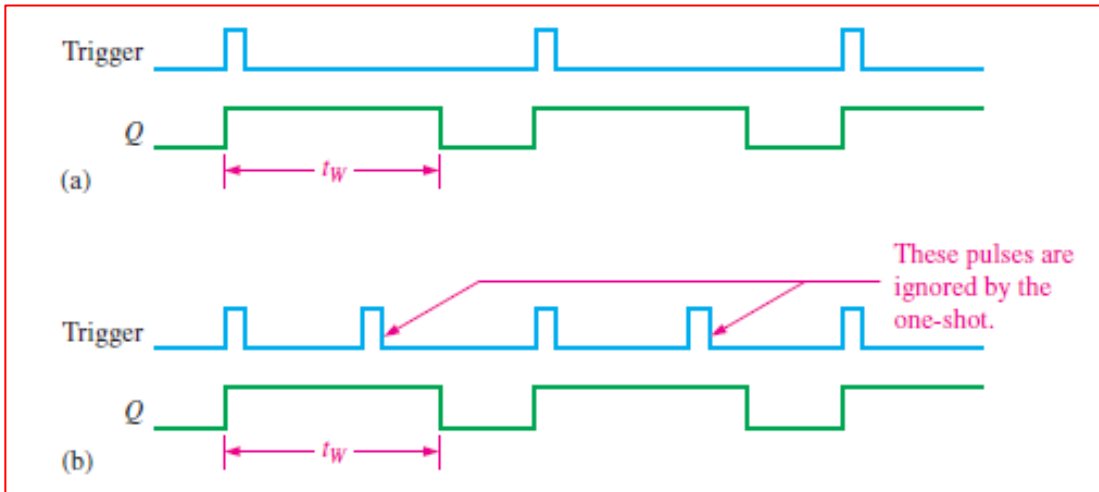

FIGURE 45 Nonretriggerable one-shot action.
- Figure 45 shows the nonretriggerable one-shot being triggered at intervals greater than its pulse width and at intervals less than the pulse width. Notice that in the second case, the additional pulses are ignored.